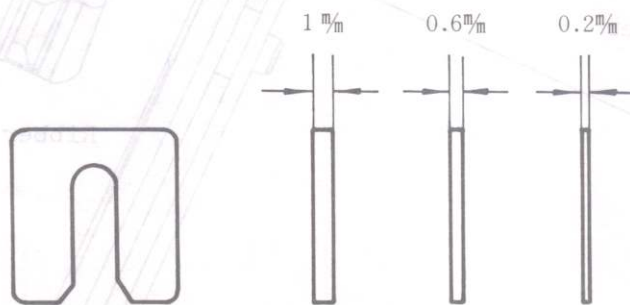

Fig. 14
* There are three different thicknesses for the washers used for this adjustment. See Fig. 14, below.